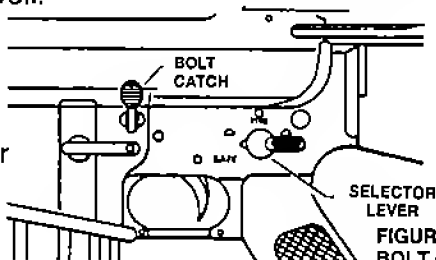

FIGURE 7 —
3. Press in on bottom of thumb piece of bolt catch while grasping and pulling back on the charging handle, to cock the hammer and leave bolt and carrier latched open to the rear. (See Figure 7.)